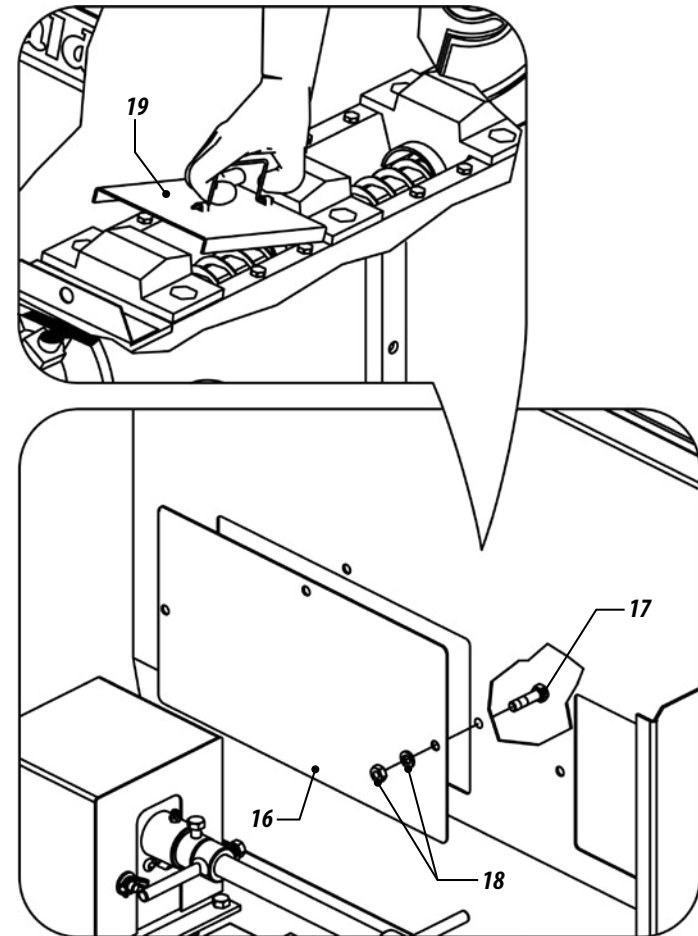

Figure 19
- 14- To transform the single tank only for seeds, remove the plates (16), loosening the screws (17), washers and nuts (18) for the passage of seed between two deposits.
- 15- Place the covers (15) to the fertilizer spout. This will make the tank only for seeds, giving greater autonomy to the machine. Figures 19.